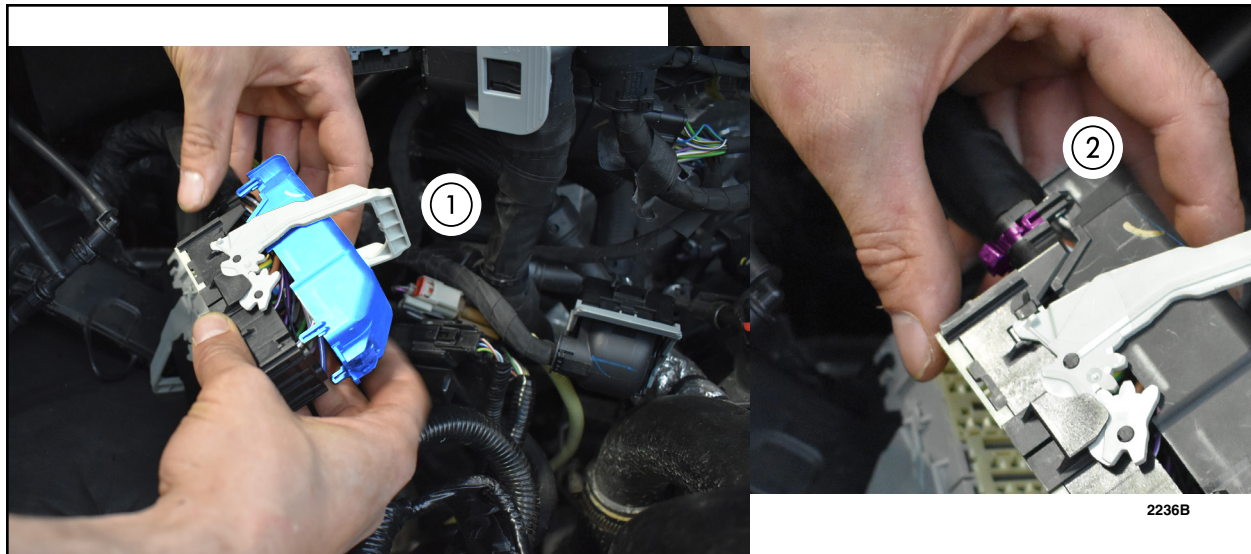

FIGURE 15
17. Remove back shell and zip-tie from 50-way black connector (C1035B). See Figure 15.